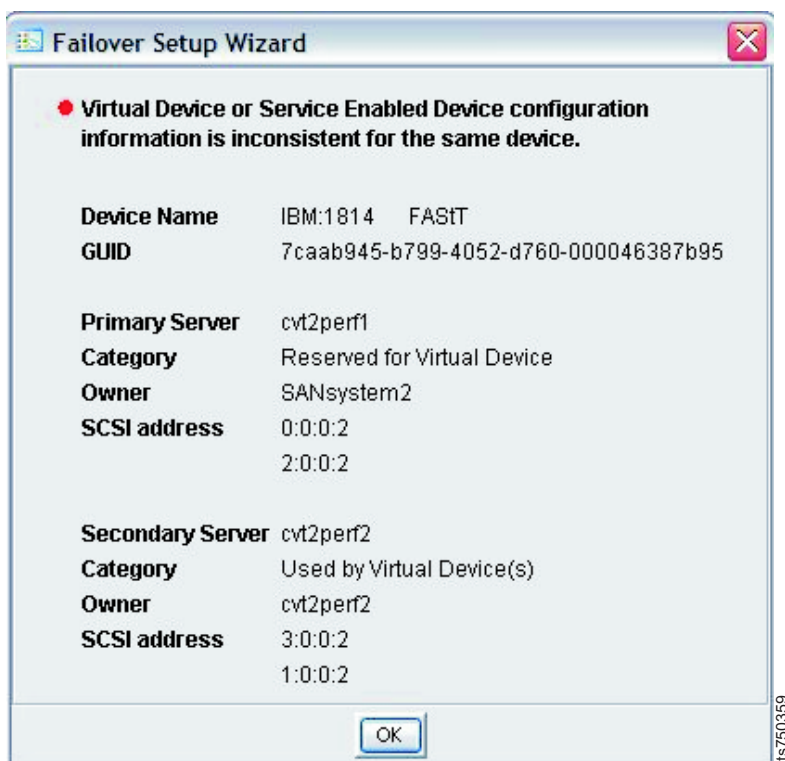

Figure 21. Summary of inconsistent device information
7. __ In the **Virtual Device or Service Enabled Device...** window (Figure 21), click **OK**.